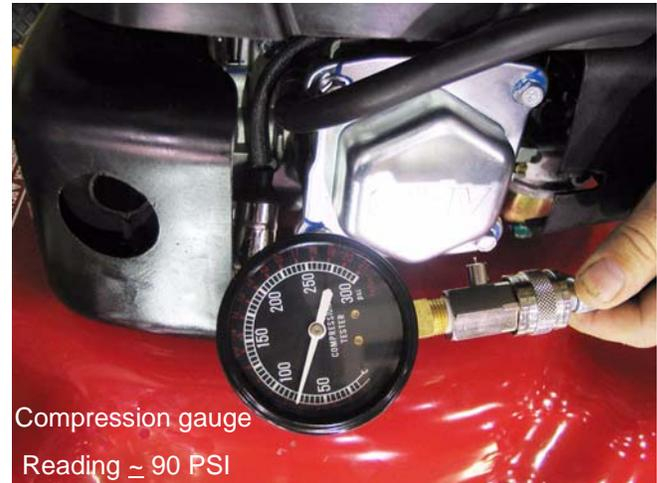

Figure 3.2
- 2f. Confirm that the gauge is "zeroed", then hold the safety bail and pull the starter rope repeatedly, until the needle on the gauge has risen as far as it is going to. See Figure 3.2.